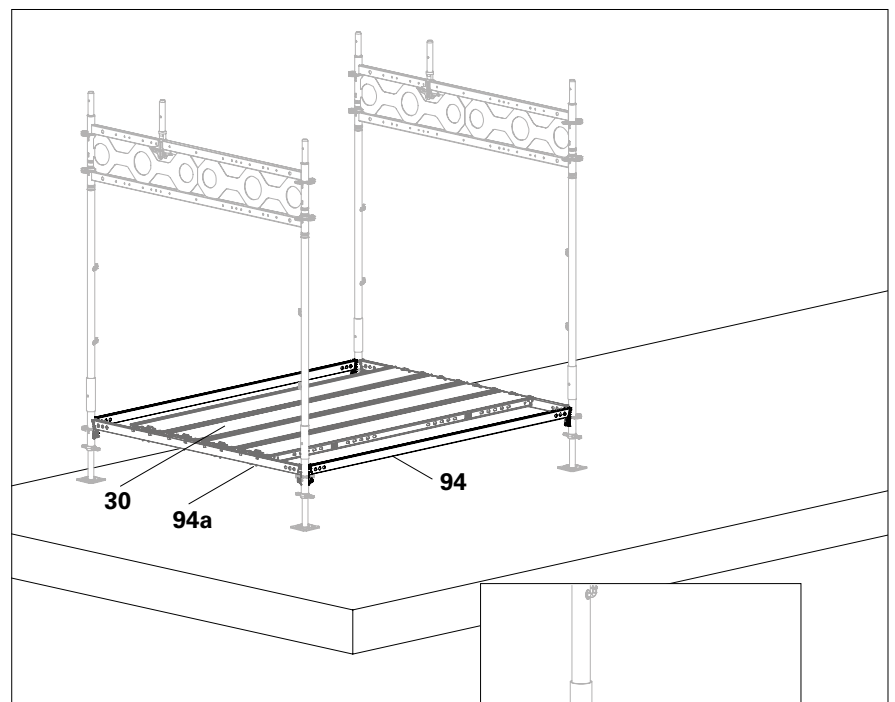

Fig. D6.04
- Set up frame columns and connect them to the base standard using Horizontal Ledgers UH-2 (94).
- Fit Horizontal Ledger UH-2 (94a) as an assembly aid on the base level and attach the decks (30). (Fig. D6.04)